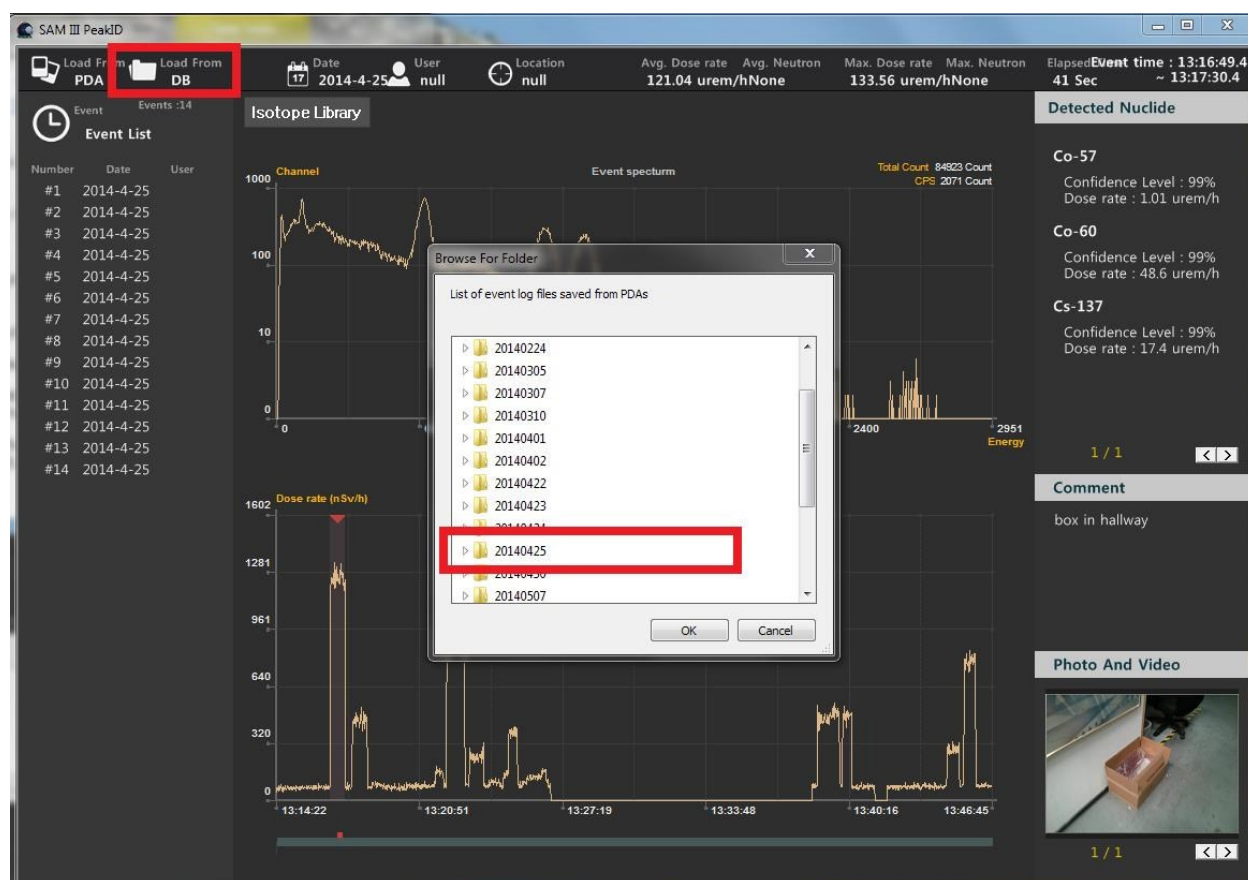

Figure 5.6. Event Log download from database
1. Click **Load from DB** (Figure 5.6). The database browsing window pops up.